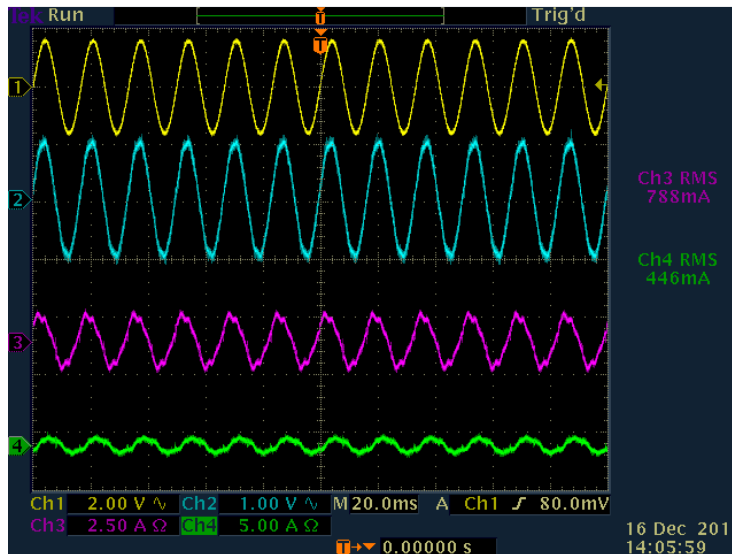
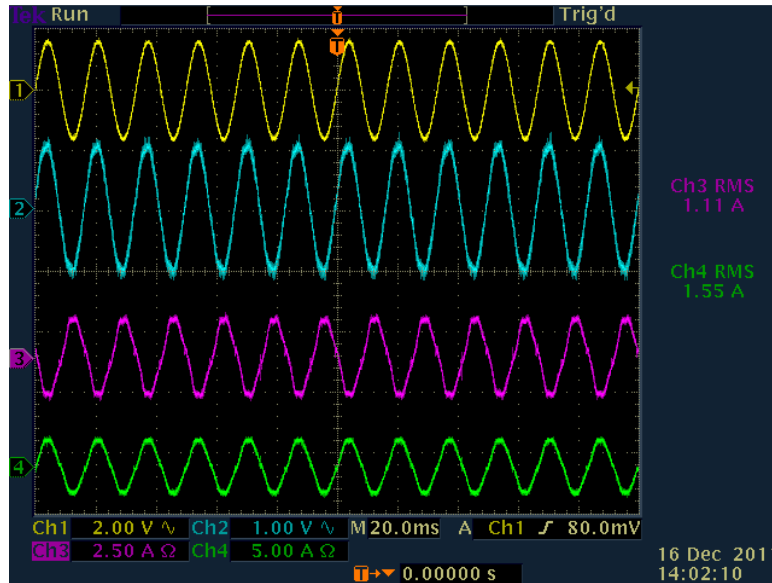

Fig 39 Load Power = Power From Inverter + Power From Grid, Vrms ~15-16V, RI ~15 Ohms
Fig 41 Load changed(reduced) w.r.t. Fig 40,
Verify that the Gui_LightCondition value is 0.2 in the watch window, Now change the value of Gui_InvStart to 1, the state machine will now kick in. MPPT will be enabled and the DC bus will start rising and as it reached 30V the inverter close loop operation will be started. The state can also be monitored by watching the variable PVInverterState in the watch window. Note the Gui_PanelPower, which shall now be close to the theoretical value. This shows the tracking of the MPPT from a cold start. Fig 39 Shows the current waveform with the inverter and the grid current, as they are almost in phase this shows the currents from the two sources i.e. the grid and the PV inverter sum together to provide the required current for the load.
11. **Power From Inverter = Load Power + Power Fed Into the Grid**, Now change the Gui_LightCommand set to 0.8, The Gui_PanelPower_Theoretical will now change to _IQ9(28.7), as MPPT is on the Gui_PanelPower is tracked close to 28.7W. Now as the inverter has surplus power that, it starts feeding power into the grid. This reversal in power flow is characterized by the phase change in the grid current Fig 41 w.r.t the inverter current as compared to the previous case of Fig 39.